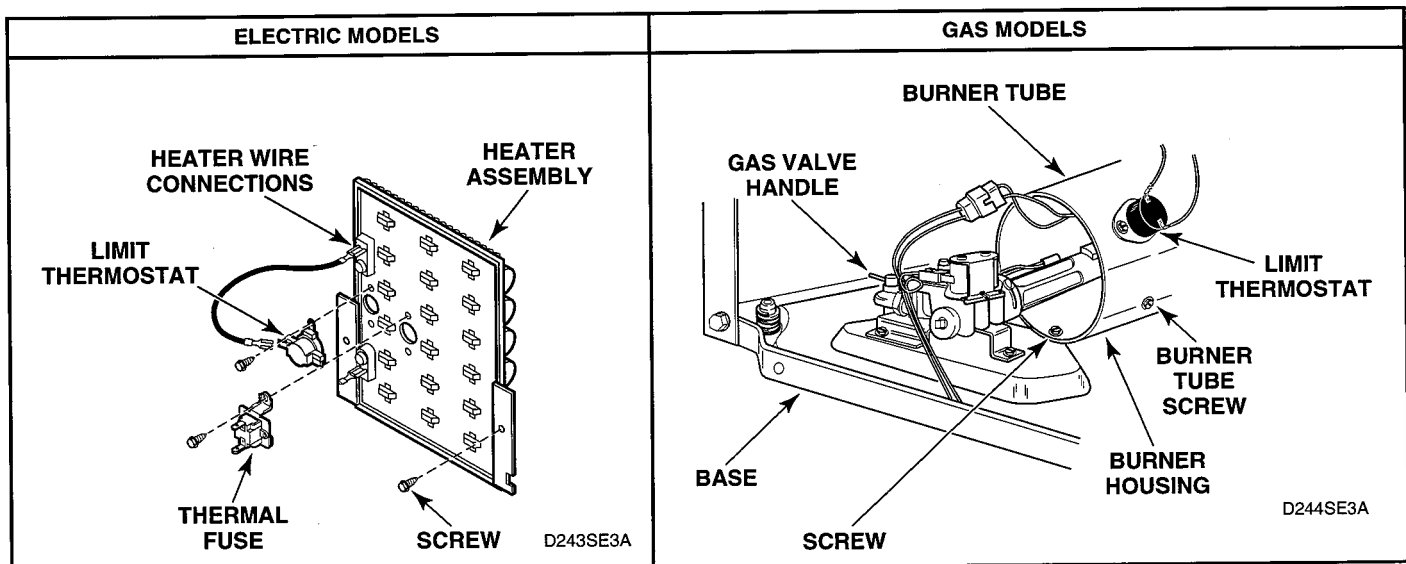

Figure 5-11
- Remove screw from right side of burner housing, while holding burner tube in place. See figure 5-11.
- Remove screw holding front of burner housing to dryer base and remove housing out through front of dryer. See figure 5-11.
- Disconnect wires and remove screws attaching limit thermostat to burner housing or element plate. See figure 5-11.
- Remove two screws holding element and plate to heater box and pull element down and away from heater box. See figure 5-11.
- Disconnect wires from element and plate. See figure 5-11.
- Remove screws holding element and plate. See figure 5-11.
- Disconnect wires from thermostat/thermistor and heater. See figure 5-11.